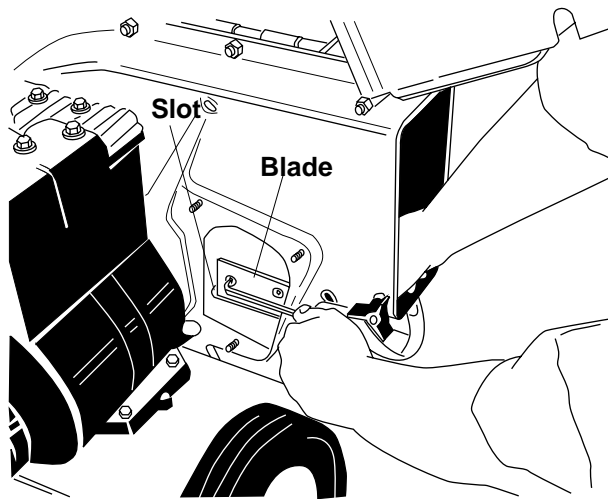

Figure 8
## SHARPENING OR REPLACING THE CHIPPER BLADES (See Figure 8)
- Reassemble in reverse order. Make certain blades are reassembled with the sharp edge facing the direction shown in Figure 8 (sharp edge is assembled toward the slotted opening at the bottom).